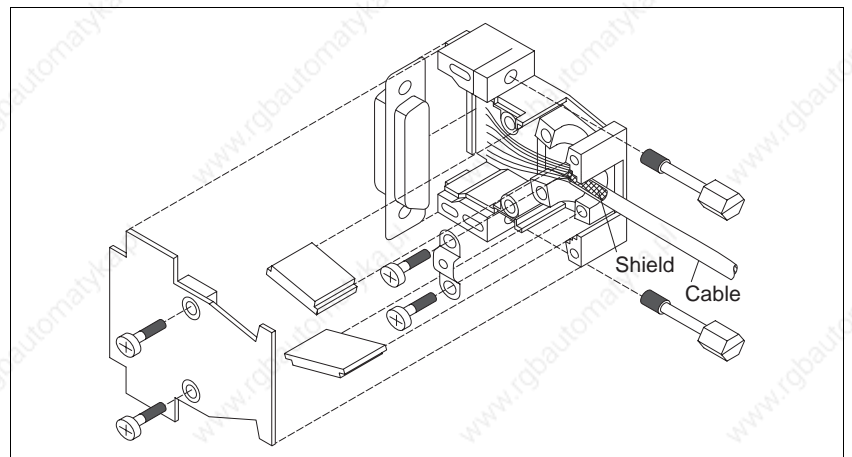

Fig. 2-16 Interface connector assembly
3. Insert two hexagon head bolts (fig. 2-16) into the connector shell.